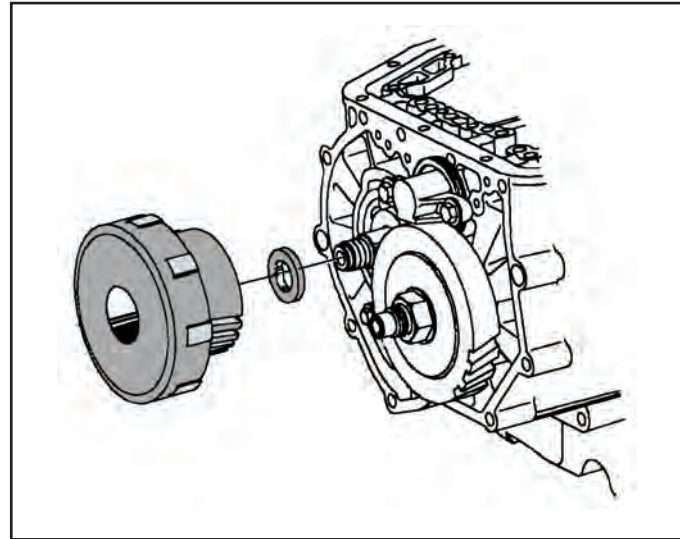

Figure 206
35. Install the 1st drive gear inner splined thrust washer onto the main shaft (See Figure 206).
36. Install the 1st clutch drum and 1st drive gear assembly (See Figure 206). Hold the first gear and clutch drum assembly and install it onto the main shaft. If the assembly is not held together, the thrust washer under the 1st drive gear may move out of position causing the transmission to bind up in reverse.